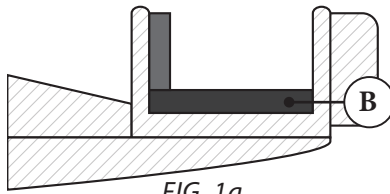

FIG. 1a
Apply the 5/8" Gasket (B) onto the Lid Separator (A) along the underside of the rim's circumference [FIG. 1a & 1b].